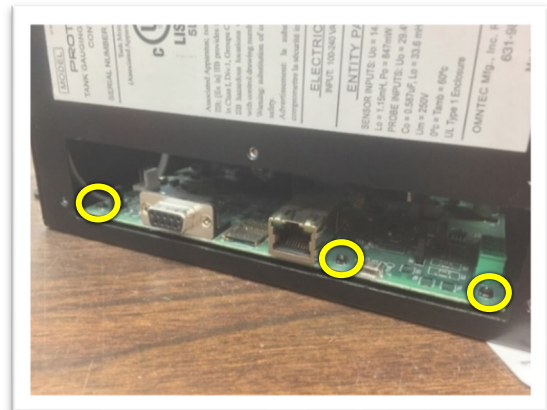

Figure 1.5
- 10) Remove the EMI shield and place it on the side. You will reinstall it later. The removal of the EMI shield makes it easier to access the MCU board at the three snap-stands. (See Figure 1.5; yellow)
- 13) Once all the screws and fastener standoffs are removed, **carefully** pull the MCU board up and off the three snap-stands (see Figures 1.5 and 1.8; yellow) and extract it out from the controller.